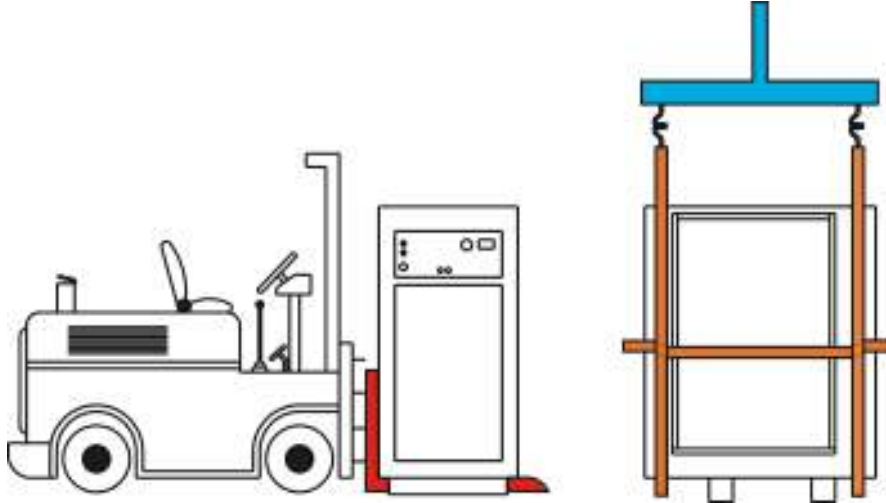

Figure 1.1 - Lifting and Handling
- A. Please lift the compressor by a forklift, if possible. If there is no forklift, then lift by sling as shown in figure 1.1. Compressors to be air lifted by helicopter must not be supported by the lifting bail but by slings instead. In any event, lift and/or handle only full compliance with Federal, State and Local codes.